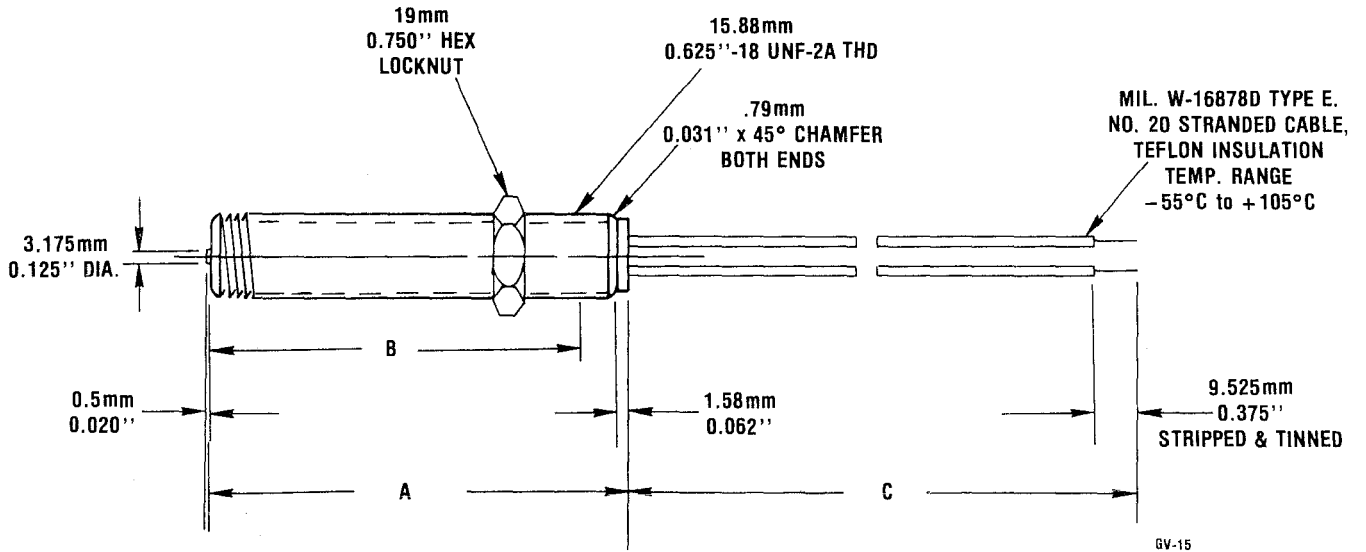

Figure 3. Unshielded magnetic speed sensor dimensions
- Dimensions (Unshielded) ..... See Figure 3 and Table A